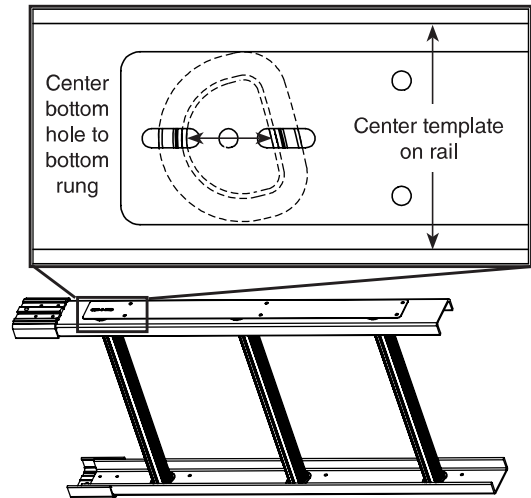

Fig. 2
8. Center the bottom hole in the drill template to the center of the bottom rung on the base section. (Fig. 2)
9. Keeping the bottom hole in the drill template centered to the bottom rung, ensure the drill template is centered on the ladder rail. The top and bottom of the template should be equal distance from the edges of the ladder rail. (Fig. 2)